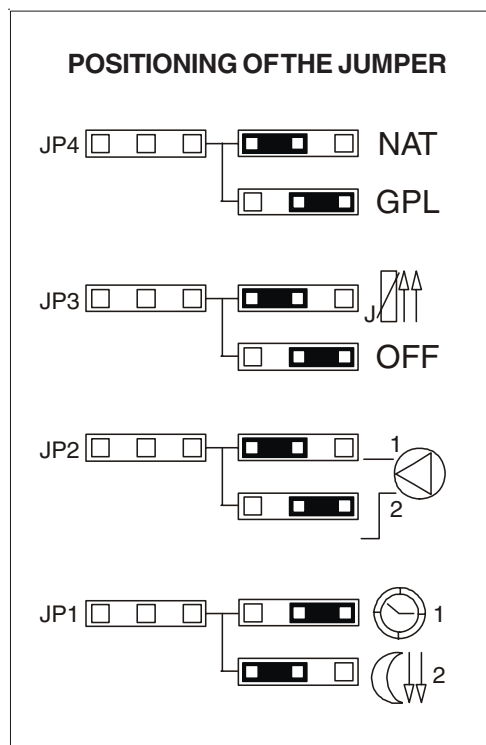

fig. 23
- **WARNING!** If an ON/OFF room stat is used, the jumper JP1 of the modulating PCB must be positioned between pins 2 and 3 (see fig. 23).